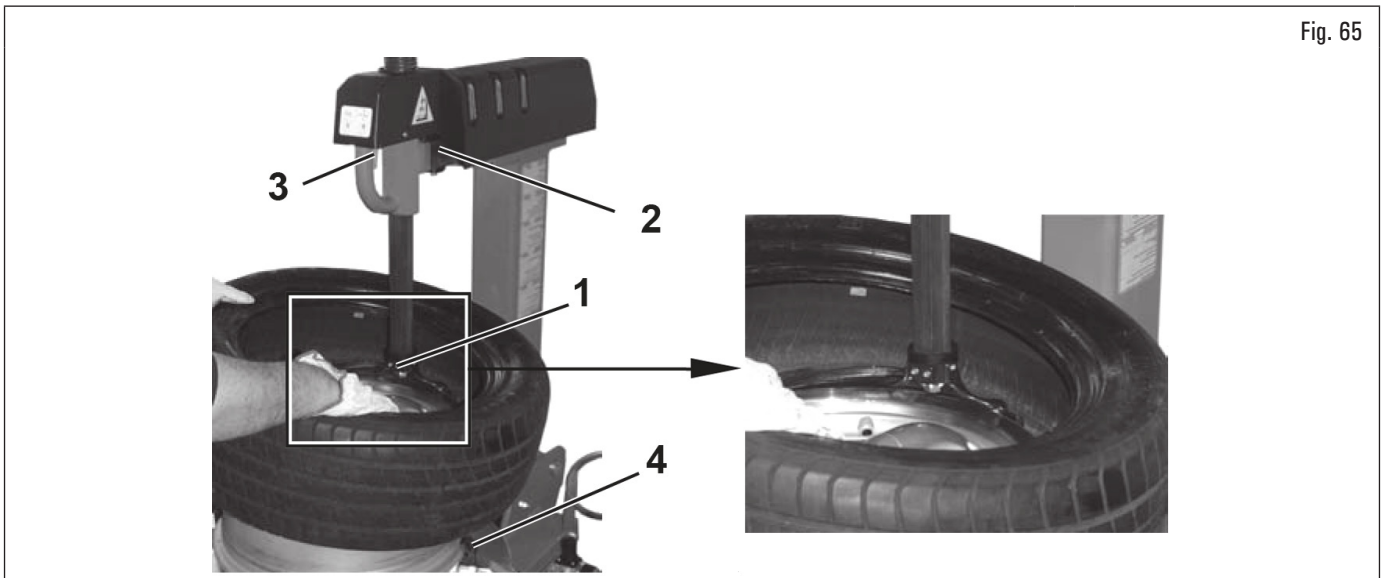

Fig. 65
2. place the toolhead (Fig. 65 ref. 1) against the rim edge and lock arm (Fig. 65 ref. 2);
If tyre is fitted on the wheel previously removed or wheel size corresponds to rim size, it is not necessary to operate handle (Fig. 65 ref. 3) to secure and release the head, only arm (Fig. 65 ref. 2) needs to be repositioned.
3. use Your hands to guide the tyre, so that the bead passes under toolhead nail (Fig. 65 ref. 1) and outside its support lip (see Fig. 65 for lower bead);
4. Turn chuck (Fig. 65 ref. 4) clockwise. Press the corresponding pedal and keeping the tyre bead pressed with Your hands in the inner rim drop centre;